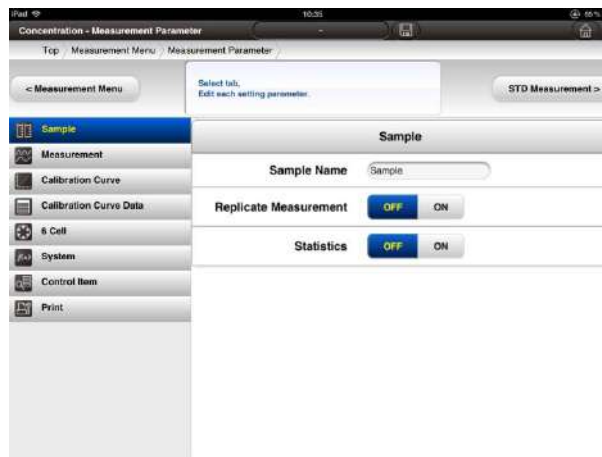

Fig. 4-3 Sample Tab
- (1) Press  [sample tab] to set sample conditions.
- (2) The sample conditions window (Fig. 4-3) will be shown.